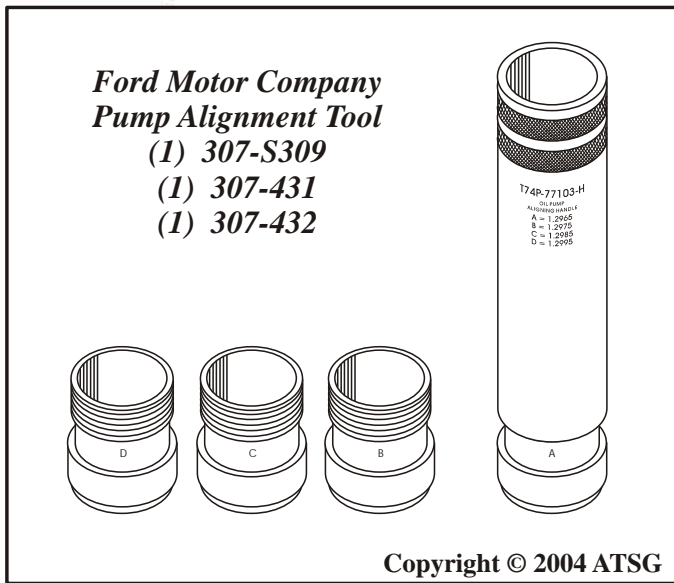

Figure 63
16. Install the appropriate size sleeve into handle of Ford Motor Co. Pump Alignment Tools, shown in Figure 63, and install into pump.